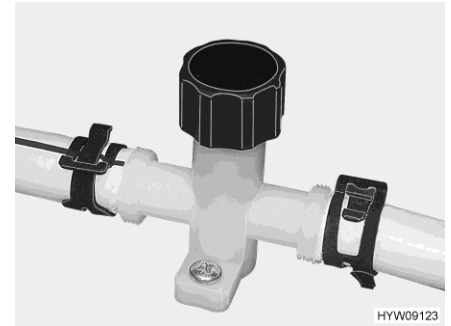

Fig. 104 Drain cock (water pipe)
- Close the drain cocks (Fig. 104). In order to do this, turn the cap in a clockwise direction, respectively. The position of the safety/drainage valve and the drain cocks is specified in the section 10.6 at the end of this chapter.